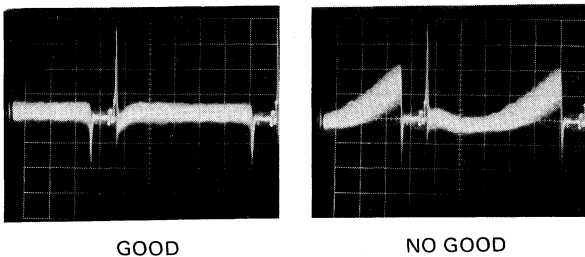

Fig. 4-2-41
(1) R signal horizontal shading adjustment
- Adjust R-H PARA VR3 AND R-H SAW VR4 to make the waveform as flat as possible. (Fig. 4-2-41)